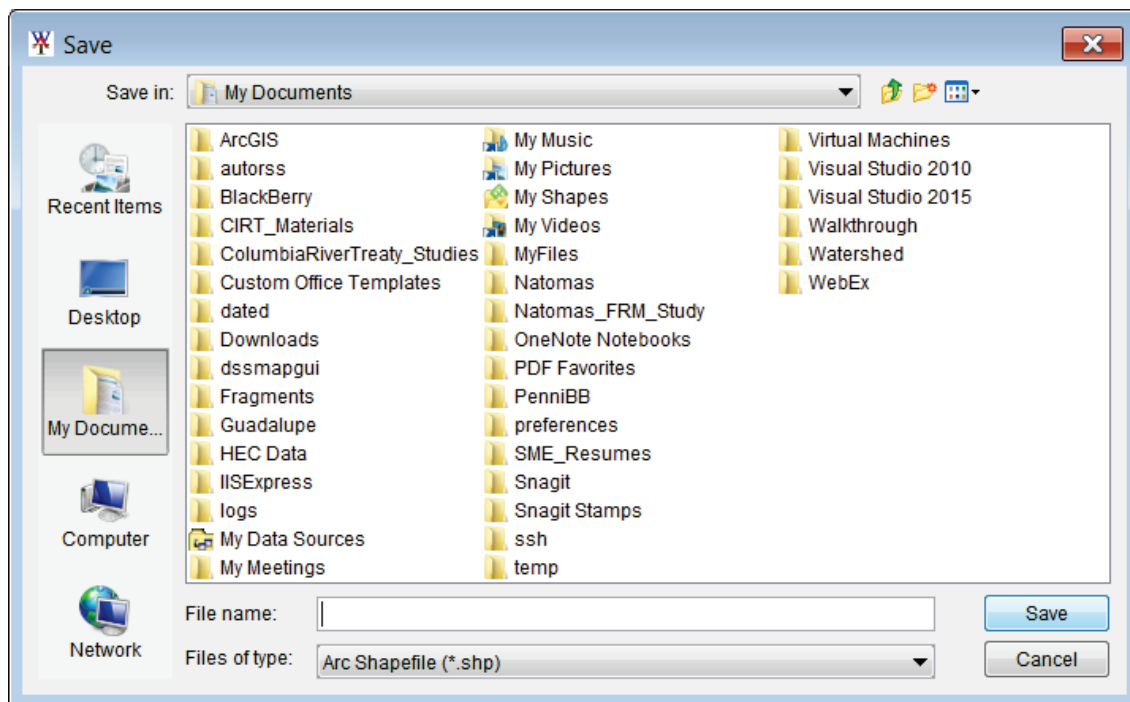

Figure I.10 Save Browser
2. A **Save** browser will open (Figure I.10). Enter a name in the **File name** box. Click **OK**, the **Save** browser will close, and the user will have an ArcView® shapefile of the displayed impact areas.